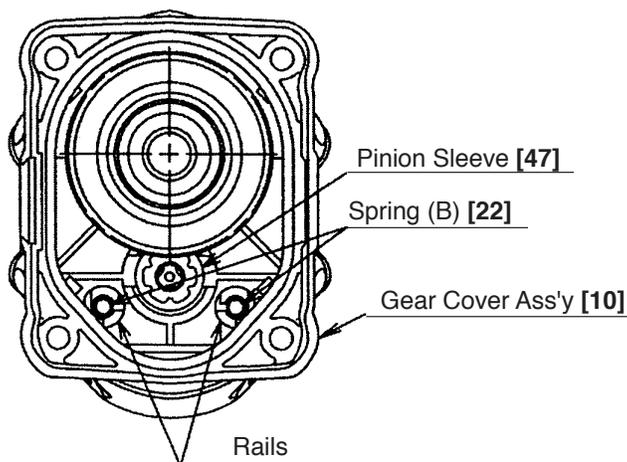

Fig. 14
(1) Disassembly of the striking mechanism section
- Push the Second Hammer **[29]** in the main body with a drill bit or screwdriver to release the Striker **[37]** from O-ring (C) **[34]**.
- Remove Spring (B) **[22]** from the rails in the Gear Cover Ass'y **[10]** as shown in Fig. 14.